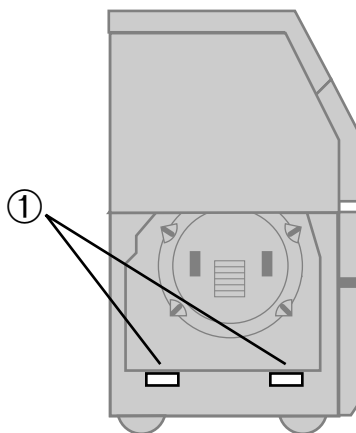

Figure 5.3 The Avantra 20/25 imagesetter with the left side door open.
2. Open the left side bottom door. See Figure 5.3.